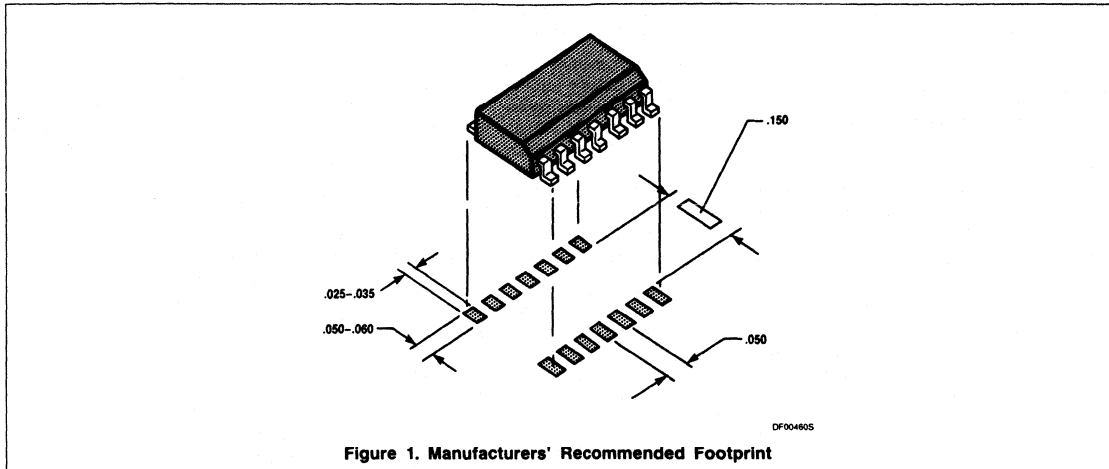

Figure 1. Manufacturers' Recommended Footprint
12. Wrap wire 8-12 times around ferrite core. Leave enough wire to connect to frame and board. See Figure 1.
Many variations of footprint patterns are possible. The formula shown in Figure 1 is applicable for both reflow and wave solder processes. Many configurations are possible
Figures 1 and 2 show some typical footprints used in reflow soldering. Note that the width of the footprint for the SO package varies from 0.025" to 0.035". Most users tend towards the narrow footprint. Further, the length to these prints should be kept as short as possible to prevent the part from swimming or sliding back and forth on the footprint while still allowing a good meniscus.